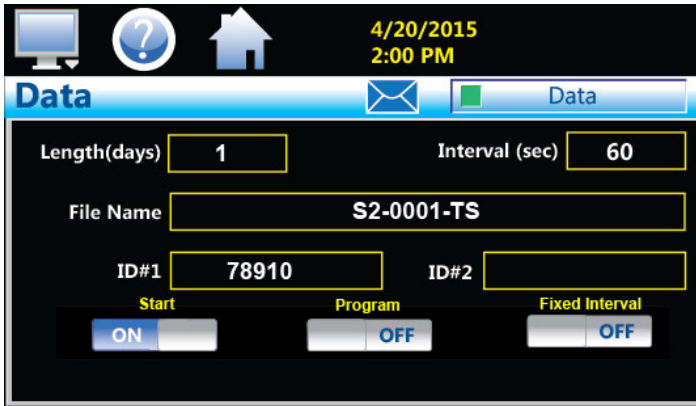

Fig. 82: Running Data File
1. To annotate a data file, select HOME - MONITOR - DATA icons. Select a data file and press the DATA button to turn on logging. The Data button will turn light green (Fig. 82).